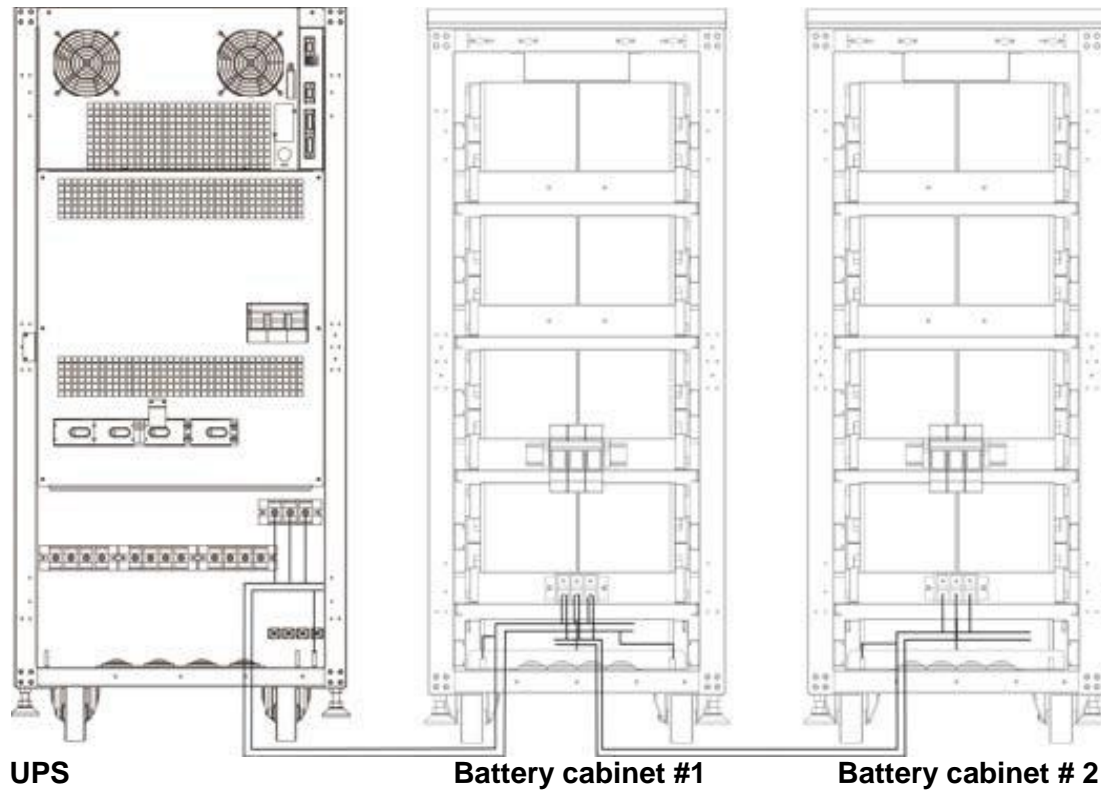

Figure 9 - Typical Connection between a UPS and two battery cabinets.
If more than one external battery cabinet is to be connected, the connection will always be in parallel among them and the UPS's cable from the negative of the UPS to the negative of the first battery pack and from this one to the negative of the second battery pack, and so on. Proceed in the same way for positive cables, half tap (N) and earth. (See Figure 9)